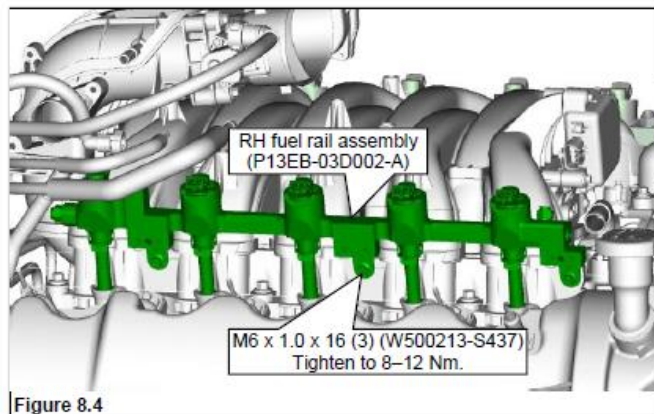

Figure 8.4
5. Position right hand fuel rail assembly onto passenger side of intake manifold and fully seat nozzles. Using three M6 x 1.0 x 16 bolts found in hardware **P15MB-ENGGIT-A**, secure fuel rail to intake manifold. Tighten bolts to 8–12 Nm. **Figure 8.4.**